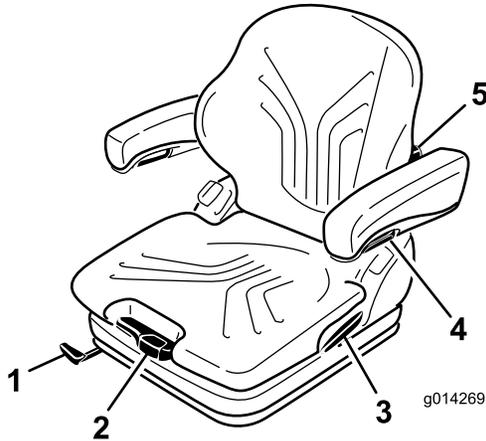

Figure 10
Adjust the seat for your weight by pulling or pressing the weight-adjustment lever (Figure 10).
1. Lift the lever to unlock the seat (Figure 10).
By turning the adjustment knob upward, you can adjust the curvature in the upper part of the backrest cushion. By turning the knob downwards you can adjust the curvature in the lower part of the backrest cushion (Figure 10).
To adjust the armrests for height, separate the round cap (Figure 10) from the cover, loosen the hexagon nut (13 mm) behind it, adjust the armrests to the desired position, and tighten the nut. Replace the cap onto the nut.
To adjust the angle of the armrests, turn the adjustment knob (Figure 10).
Pull up the locking lever to release the backrest catch (Figure 10). When releasing the backrest catch, do not apply load to the backrest by pressing against it.